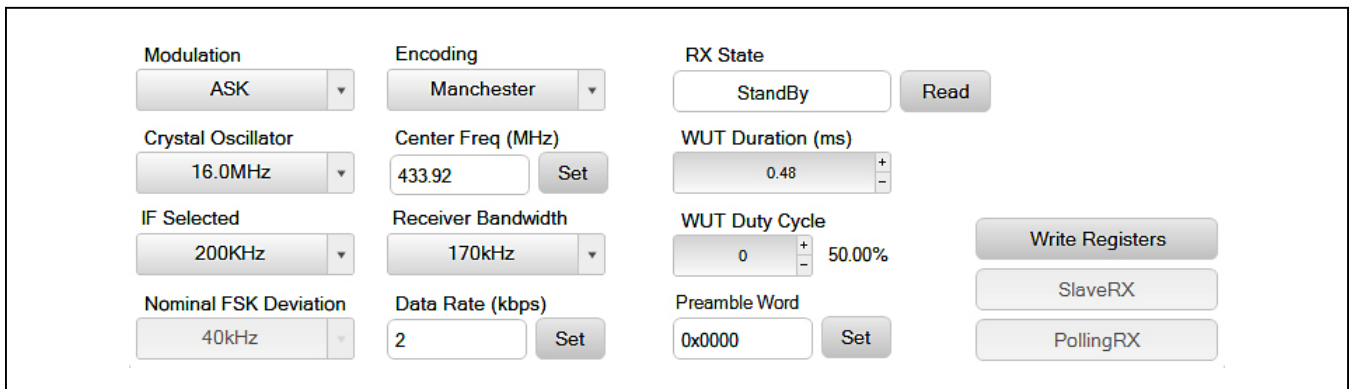

Figure 14. Device Settings and Write
b) GUI Drop-Down and Entry Selections (Figure 14)
To select the **modulation**, choose ASK or FSK in the Modulation drop-down list. (See Figure 14.)
The **Encoding** section allows the user to define the type of data being transmitted. The two options here are Manchester or NRZ and are available in the drop-down list. (See Figure 14.)
To change the reference oscillator, select the oscillator frequency in the drop-down list. (See Figure 14.)
To program the carrier, enter a valid frequency (in MHz) into the **Center Freq** field and click the **Set** button. (See Figure 14.)
The IF selection selects the IF frequency to be configured. Through the drop-down list, either 200kHz or 400kHz IF frequencies are selected for configuration in the device. (See Figure 14.)
down list, the desired channel filter bandwidth (CHF) is selected for configuration in the device. (See Figure 14.)